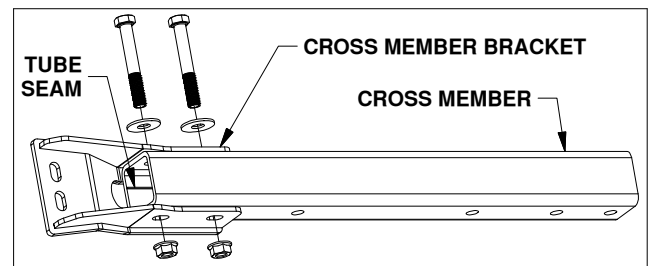
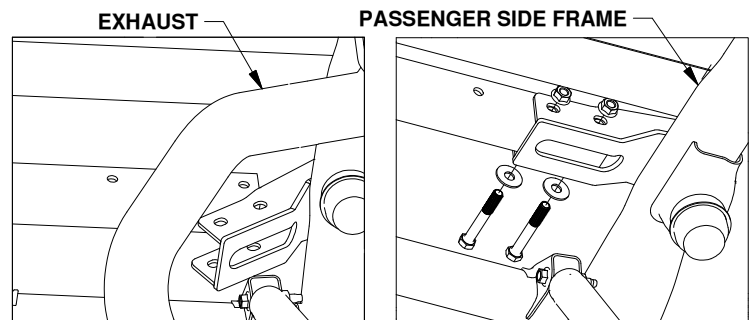
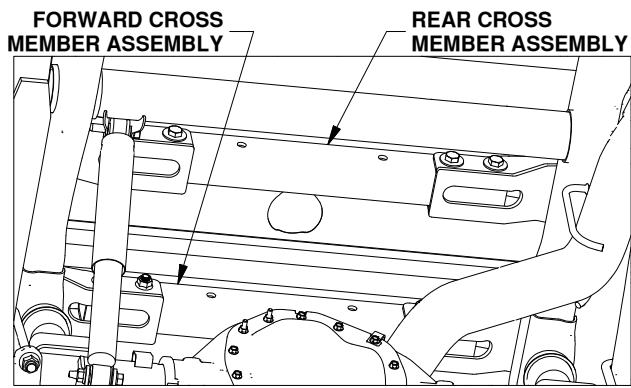

Figure B2: Cross member and bracket assembly.
Figure B4 & B5: View looking up at bottom of bed over axle.
Figure B6: View looking up at bottom of bed over axle.
3. **Forward cross member assembly.** Inspect one of the cross member tubes, find the wall that contains the welded seam. Bring a cross member bracket and cross member together so that the tubing wall that contains the welded seam is down inside the cross member bracket, see Figure B2. Pass a 5/8" flat washer onto two of the 5/8" bolts. Attach the cross member bracket to the cross member by passing the 5/8" bolts through the two parts, as shown in Figure B2. Align the bolts so they are centered in the cross member brackets slots. Attach each bolt with a 5/8" flange nut. Push the cross member tightly into the cross member bracket so there is no gap between the two parts. Tighten and torque the 5/8" nuts to 150 ft. lbs.
5. **Complete the cross member assembly.** Pass a cross member bracket between the exhaust and the passenger side of the frame, see Figure B4. The flat end of the cross member bracket will go over the frame and the other side will bolt up to the cross member. Bolt the two parts together so the connections match the other side of the cross member. Once assembled move the cross member assembly so its just forward of the mounting holes in the frame, see Figure B5. Hand tighten hardware only at this time.
6. **Place the rear cross member.** Attach another cross member bracket to the remaining cross member as shown in Figure B2, leave the 5/8" bolts loose. Position the cross member behind the bed cross member and 4" hole drilled in the bed, see Figure B6. Attach a second cross member bracket to the cross member as shown in Figures B4 & B5. Hand tighten hardware only at this time.